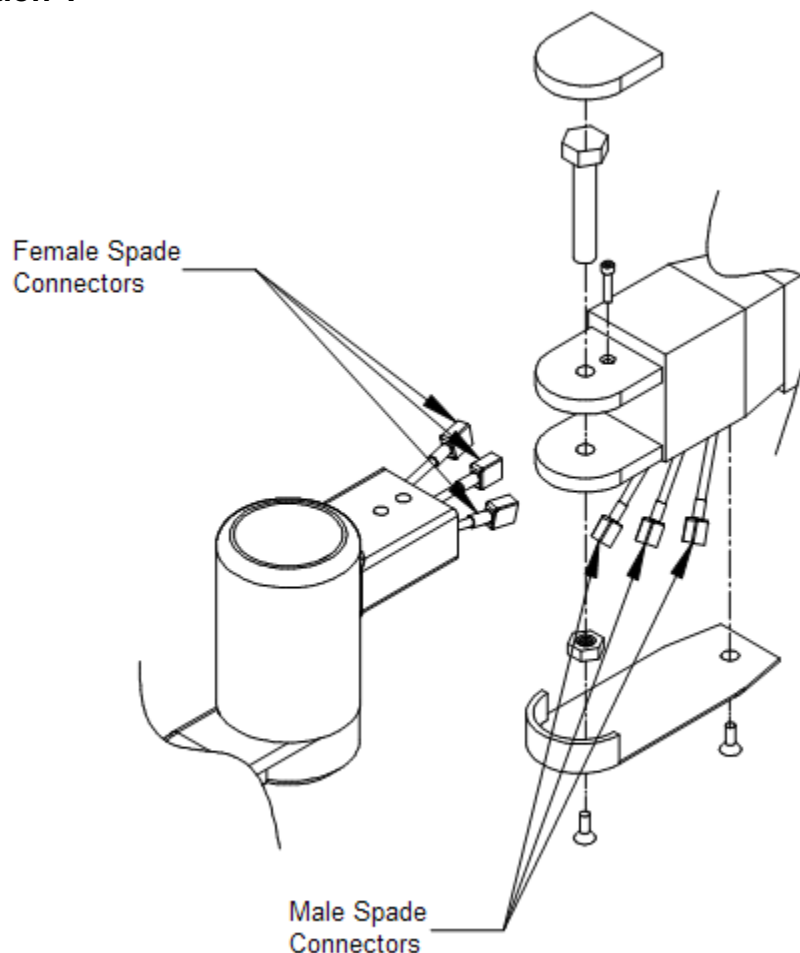

Figure 20: Light Head to Arm Electrical Connections
- One set of wires exits from the light head assembly, and the other set exits from the arm/wire junction assembly. Connect the wires with the spade connectors: black wire to black wire, red wire to red wire, and green wire to green wire. Replace the Connection Cover and securely tighten the two screws. See **Figure 20: "Light Head to Arm Electrical Connections"**.